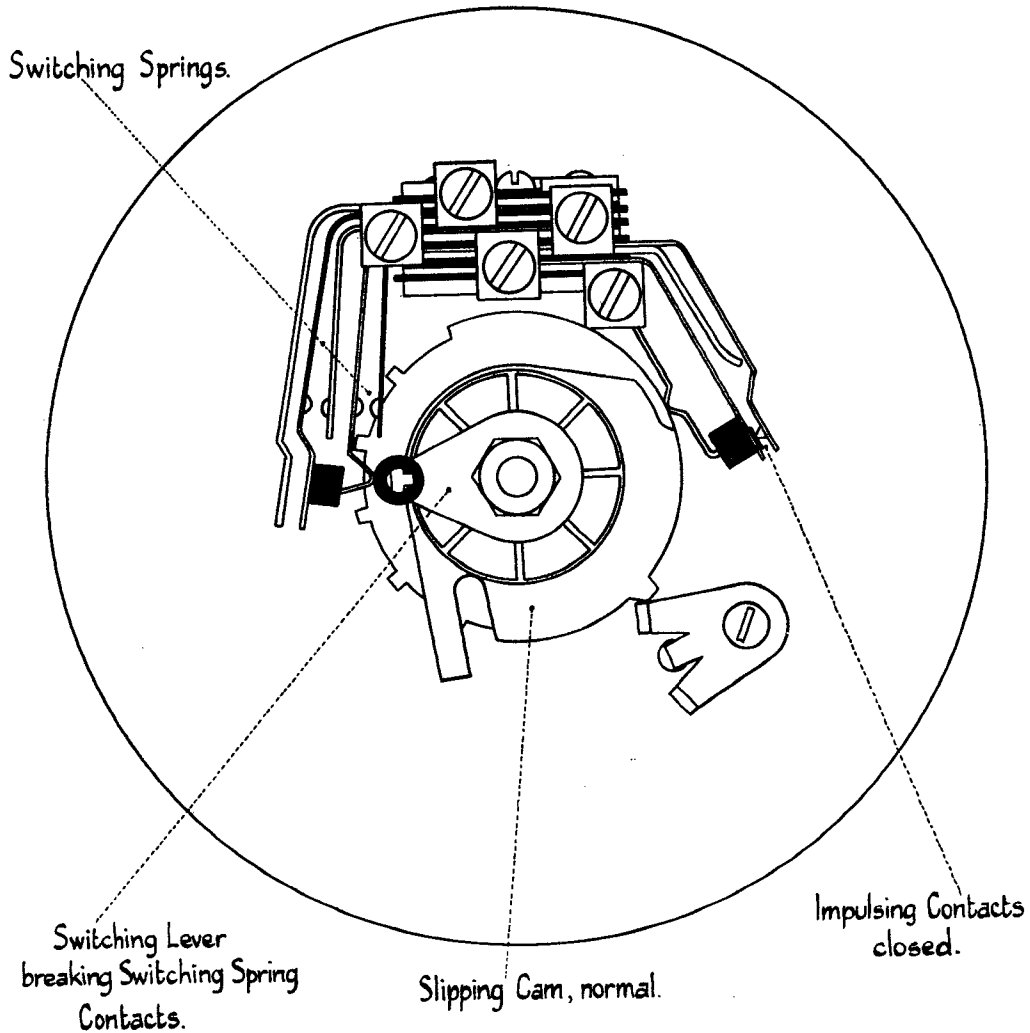

Fig.23. Normal Position.
2.12 Figure 23 shows the position of the impulsing contacts, slipping cam and switching lever when the dial is at normal.